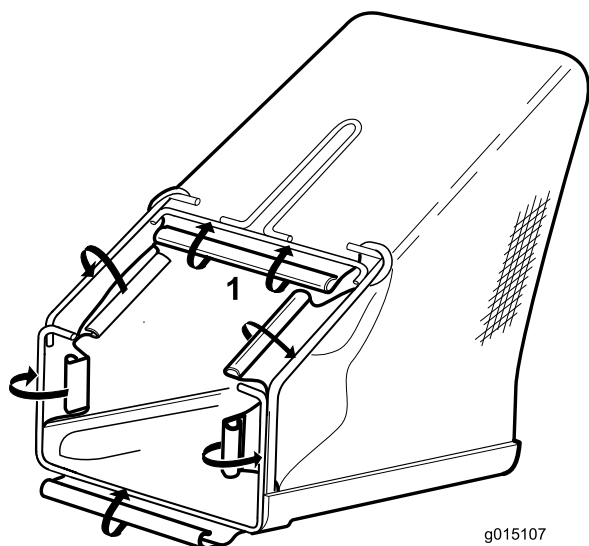

Figure 4
2. Starting at the handle, connect the 6 plastic clips on the grass bag to the wire frame (Figure 4).